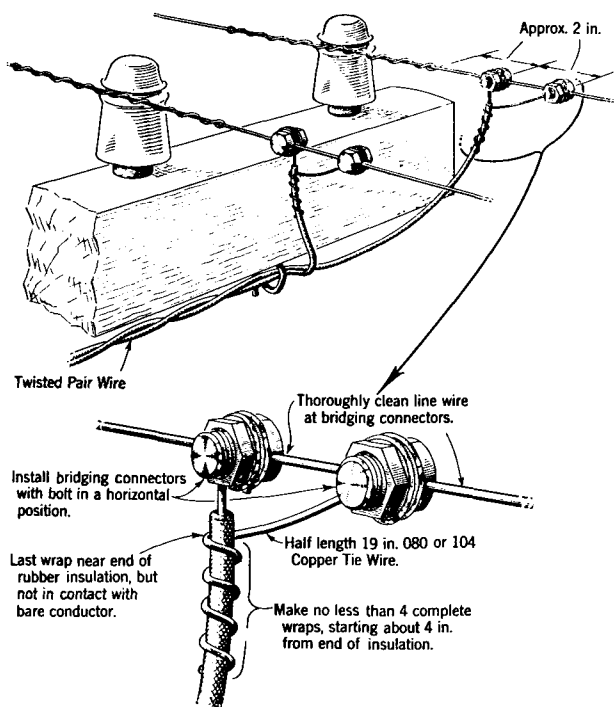

Fig. 15 — Tie Wire Extended to Additional Bridging Connectors
- (4) Extend tie wire to an additional bridging connector as illustrated in Fig. 15.